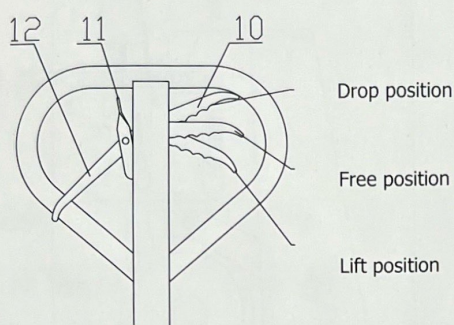

Fig. 5
- 4.1 After the truck is assembled, try to rock the hand grip and operate different positions of control handle knob 10 to examine the lifting, free position and dropping and check that whether the different positions are normal or not. See fig 5.
- 5.3 See fig 5, when hand knob 10 is placed on the lift position, the truck will be in a state of lift. At this time, if you rock the hand grip, the truck will be lifted.
- 5.4 See fig 5, when hand knob 10 is placed on the free position, the truck will travel. At this time, if you rock the hand grip, the truck will neither lift nor drop. Then, you can use the truck to move the cargo.
- 5.5 See fig 5, when the hand knob 10 is placed on the drop position, truck forks will drop. At this time, the truck forks will drop automatically.
- 5.6 See fig 5, when the hand knob 12 is placed below, the truck will be in a state of free walking.
- 5.7 See fig 5, when the hand knob 12 is placed above, the truck will be in a state of brake.
- 5.8 See fig 5, hand knob 11 is used for release brake.